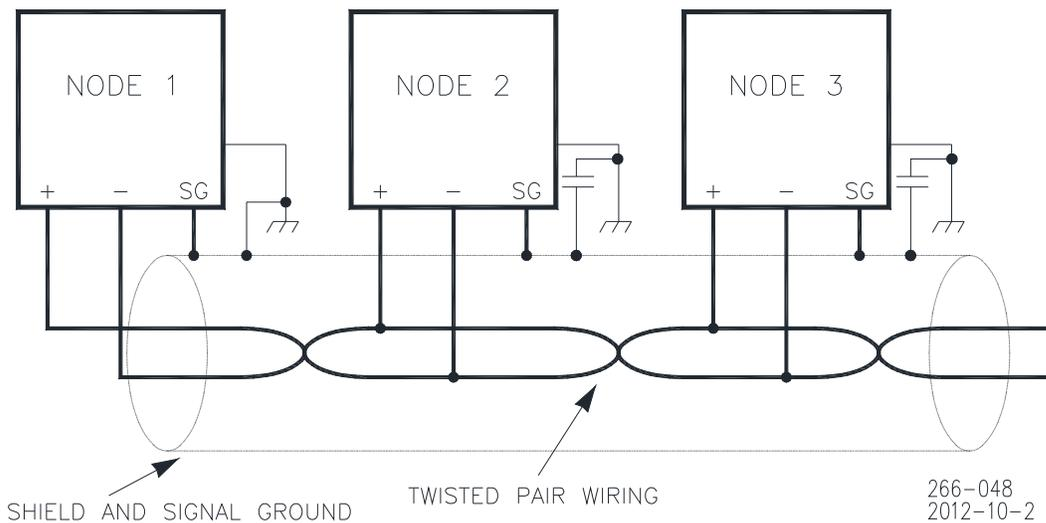

Figure 2-7. Alternate Multipoint Wiring Using Shielded Twisted-pair Cable without a Separate Signal Ground Wire
**Non-isolated nodes may not have a signal ground available. If signal ground is not available, use the alternate wiring scheme in Figure 2-7 with the signal ground connection removed on those nodes only.**